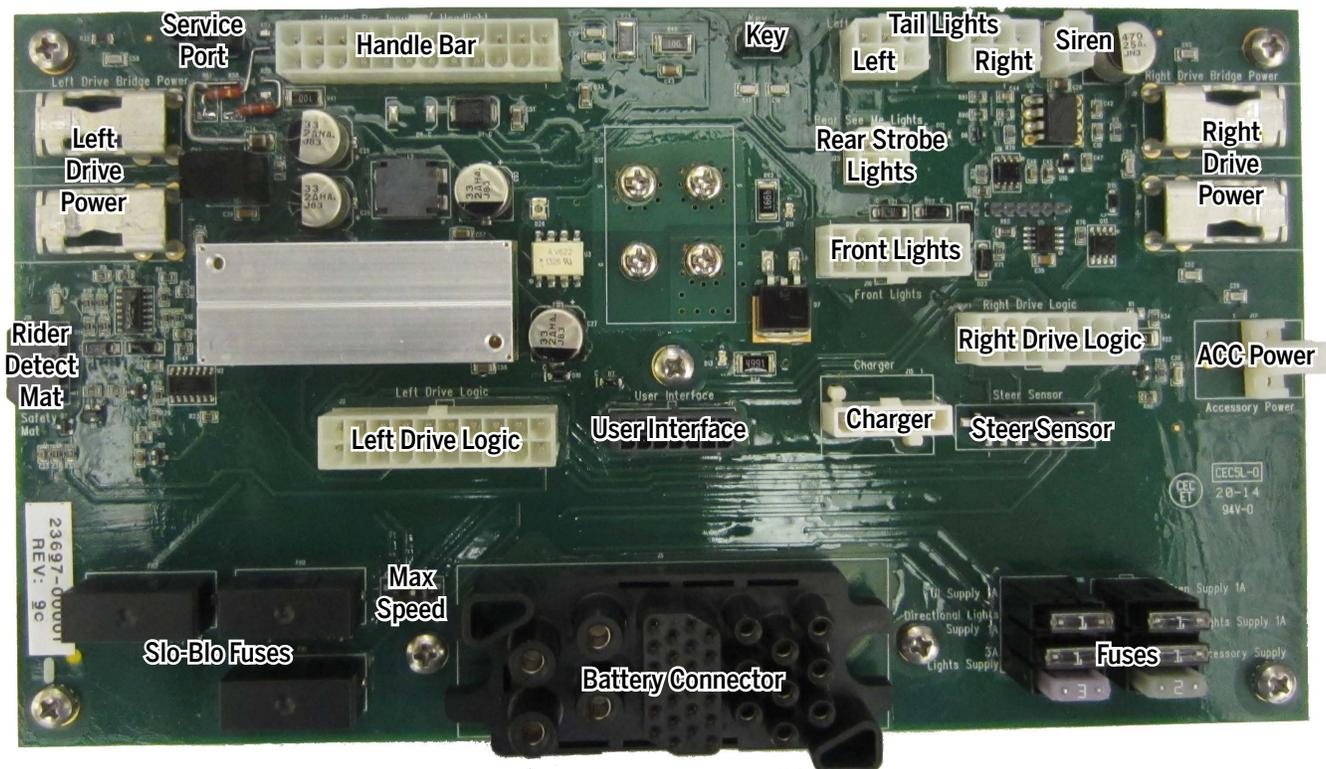

Figure 148: PI Board Components and Connectors
4. Connect all the harnesses. See **Figure 148**.